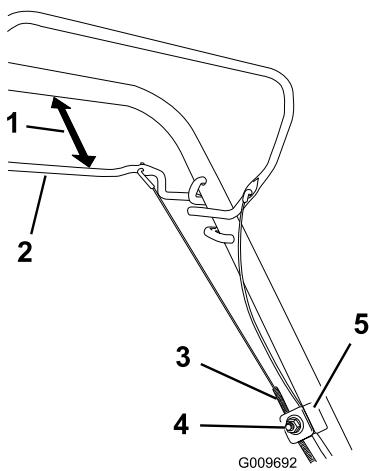

Figure 48
- Loosen the cable support nut (Figure 48).
2. Hold the self-propel bail 1 to 1-1/2 inches (25 to 38 mm) from the handle (Figure 48).
3. Pull down the cable jacket (toward the mower) until there is no slack in the cable (Figure 48).